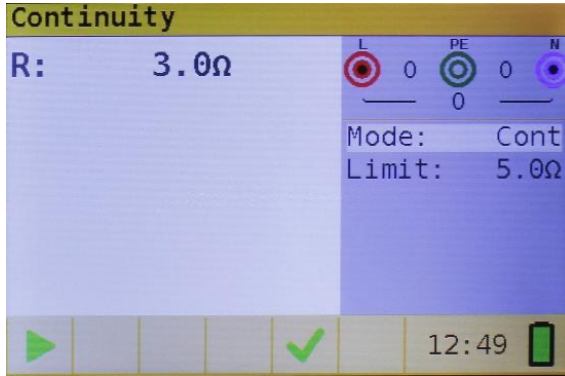

Figure 8.3: Last results
Step 1 When the measurement is finished (Figure 8.3) results are displayed on the screen.